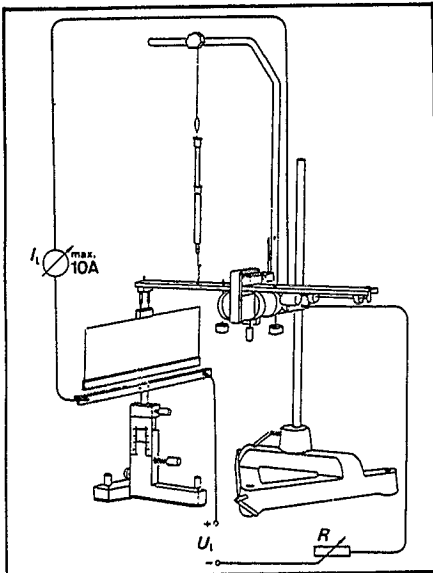

Fig. 8 Assembly for measuring the forces between two current-carrying conductors (electrodynamic ampere definition)
Attach the test objects (e.g. ③④ or ③⑨ or ④⑪) to clamp ③⑩. Operate levelling screws ②⑥ so that, when turning the height adjustment screw ③②, the clamp is moved vertically, i.e. that it is possible to vertically adjust the aluminium conductor ③④ running in parallel to the loop on the current balance. See Fig. 8.
Depending on the experiment, a test object from 516 33 or 516 37 is attached to the current balance (contact sockets ③⑬) and the other object is attached to the vertically adjustable stand (see Figs. 8 to 12).